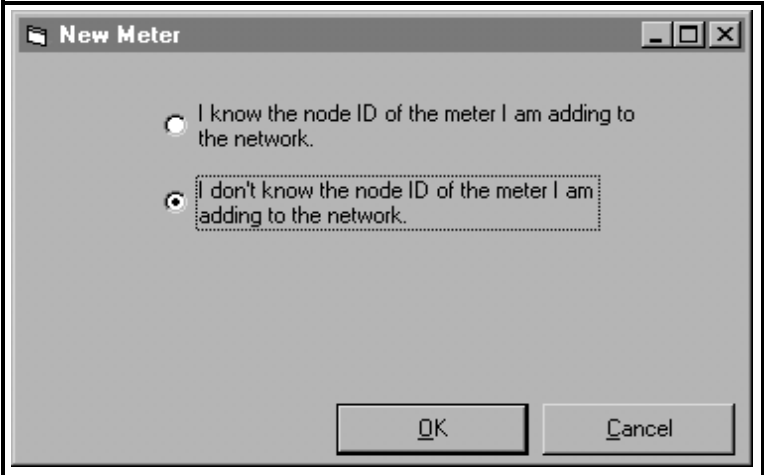

Figure 4: The Node ID Dialog Box
4. After selecting the “*New*” and “*Meter*” options, the dialog box shown in Figure 4 on the next page appears. Select the “*I don’t know the node ID of the meter I am adding to the network*” radio button and then click on the [OK] option button.